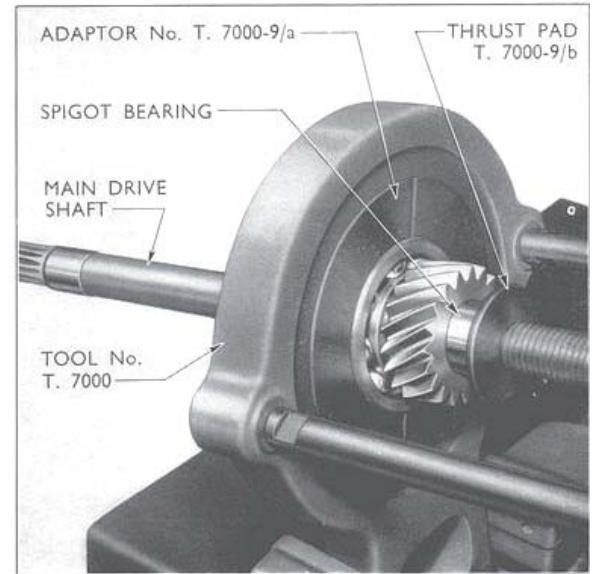

Fig. 8
- (iv) If the spigot bearing has been removed, assemble a new spigot bearing to the main drive shaft as illustrated in Fig. 8.